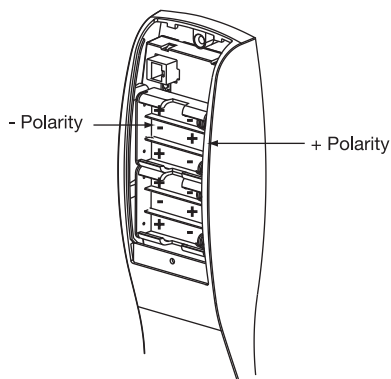

Fig. 2
2. Attach front plate with (2) flat head screws
3. Place (6) "AA" batteries into the compartment being careful to align polarity properly (Ref. Fig. 2).